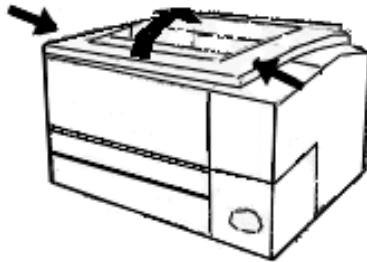

Figure 18. Opening The Printer's Top Cover
1. Open the printer's top cover as shown in Figure 18.